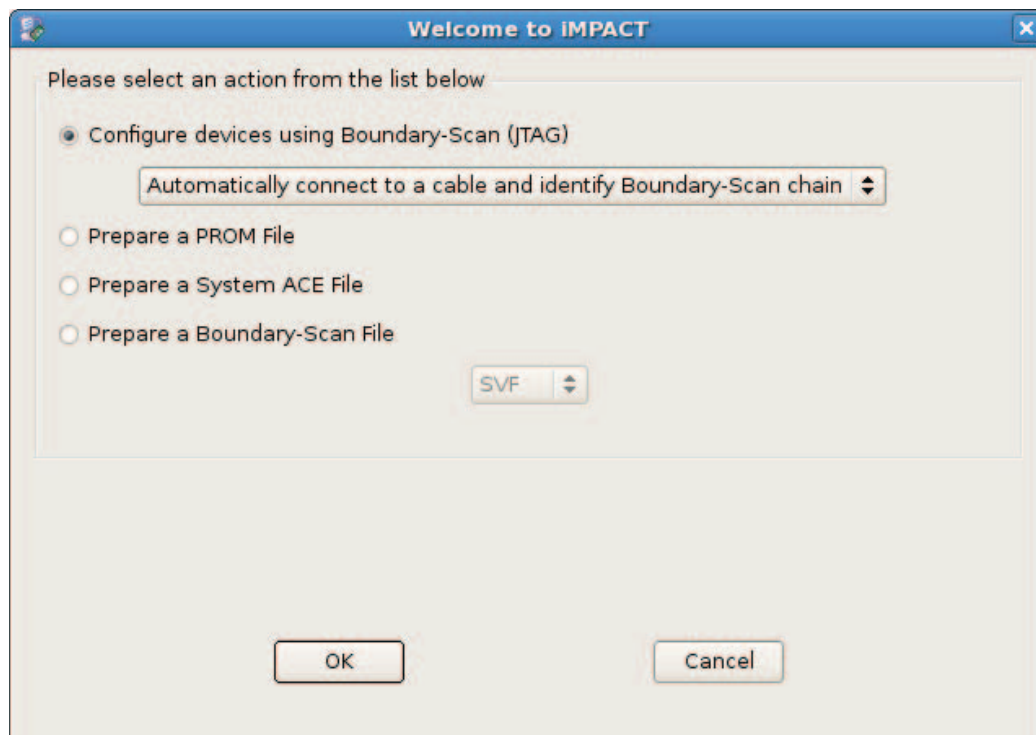

Figure 11: Welcome to iMPACT Dialog Box
4. In the **Welcome to iMPACT** dialog box, select **Configure devices using Boundary-Scan (JTAG)**, and click **OK** (Figure 11).